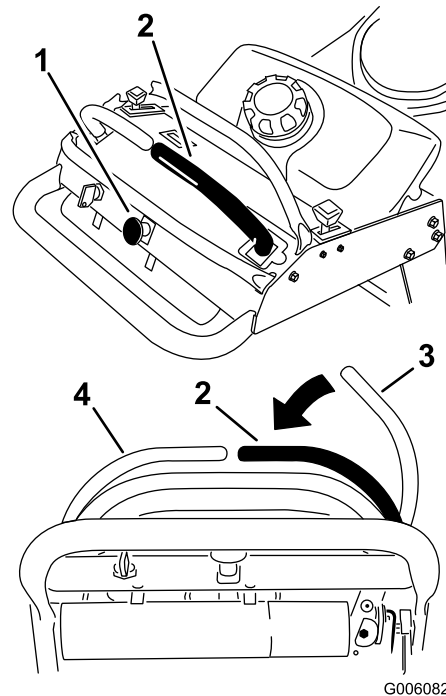

Figure 8
- To engage the mower blades, move the right side motion control lever to the center, un-locked position (Figure 8).